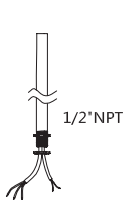

Fig. 8
1. Loosen the nuts on 1/2" NPT. (Fig. 8)